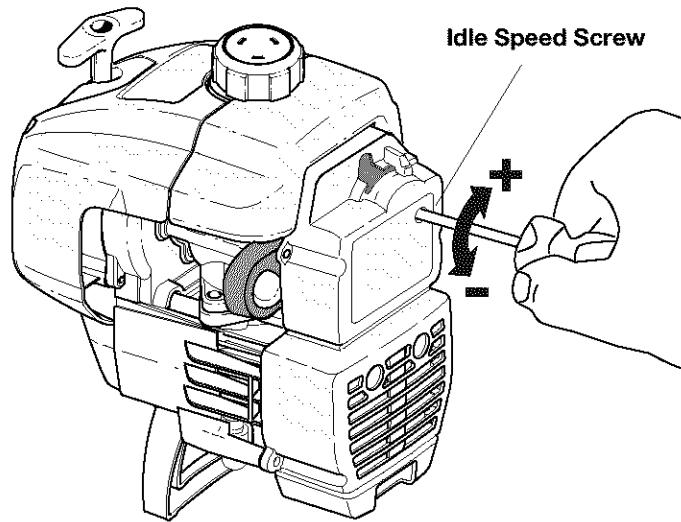

Fig. 35
The idle speed of the engine is adjustable through the air filter/muffler cover (Fig. 35).
2. Release the throttle trigger and let the engine idle. If the engine stops, insert a small phillips or flat blade screwdriver into the hole in the air filter/muffler cover (Fig. 35). Turn the idle speed screw in, clockwise, 1/8 of a turn at a time (as needed) until the engine idles smoothly.